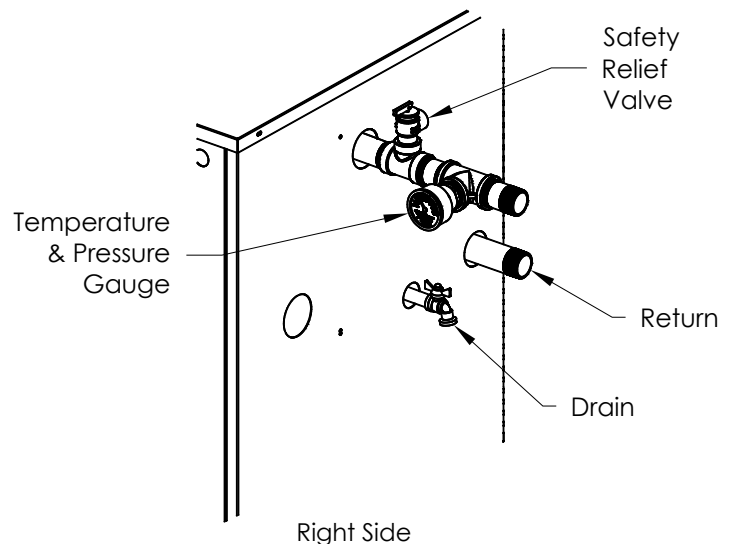

Figure 7-2: Alternate Near Boiler Piping
- D. Attach hose to drain valve located on return piping (see Figure 7-2 and 7-3). Note-Terminate hose in five gallon bucket, at a suitable floor drain, or outdoor area).